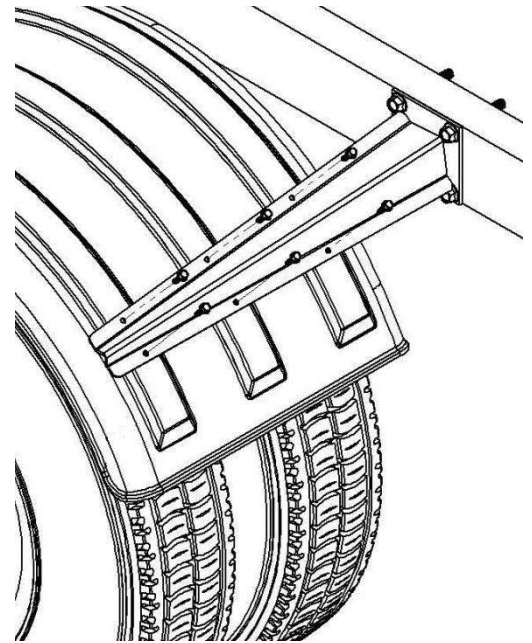

Figure 11
- Make sure the fenders are square and aligned (Figure 11). Twists or bows in the fender will fatigue the material over time.